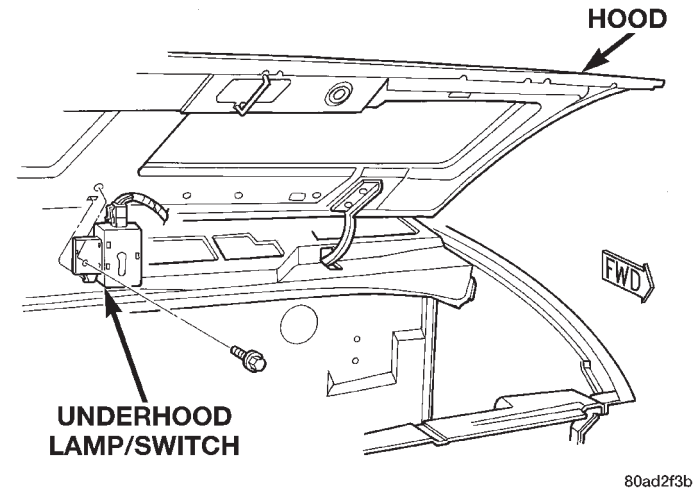

Fig. 8 Underhood Lamp
- (1) Position underhood lamp on hood inner panel. Ensure anti-rotation tab is positioned in slot on hood inner panel.
- (2) Install the attaching screw through the lamp and into the hood panel (Fig. 8). Tighten the screw securely.
- (3) Fold lamp housing over and firmly press onto base to snap into place.
- (4) Connect the wire harness connector to the lamp.